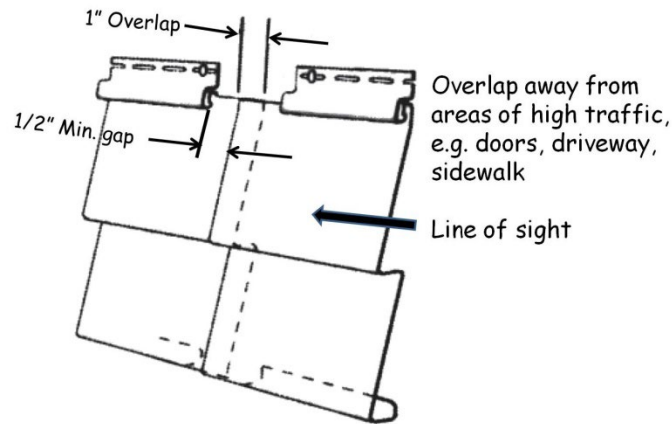

Figure 11-9. Siding Overlap.
2. Install siding with a 1" overlap between pieces and a minimum of $\frac{1}{2}$ " space between the top lock of the underlapping piece and the end of the overlapping piece (see Figure 11-9). Maintain a $\frac{1}{4}$ " gap ($\frac{3}{8}$ " when temperatures are below 40° F) at the corners (to allow for expansion) and ends of pieces, including corner posts, J-channel, J-blocks, windows, etc. Overlap the siding pieces such that in high traffic areas one cannot see into the overlapped joint.